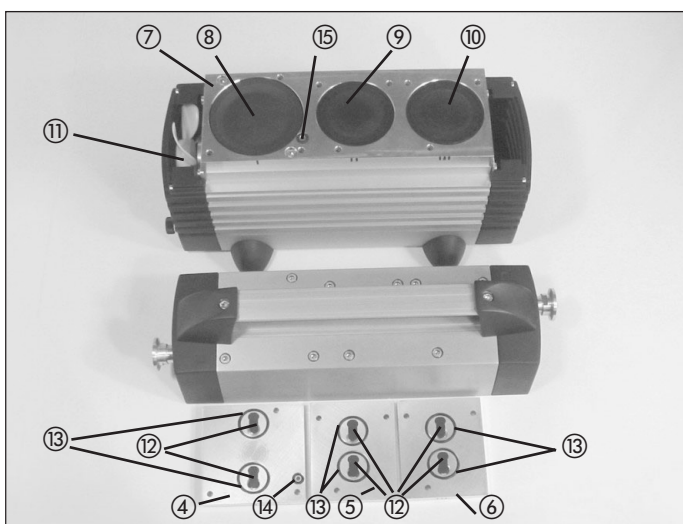

Fig. 6: Servicing level 3
- ➑ Turn the three structured diaphragms ➒, ➓ and ➑ outwards with your hands, counter-clockwise (fig. 6). For this, turn the fan ➑ such that you can easily grip each structured diaphragm with your hands.
- ➒ Remove the valve plates ➑ and O-rings ➑ from the intermediate plates ➎, ➏ and ➑ (fig. 6).
- ➓ Remove O-ring ➑ from the intermediate plate ➎ (fig. 6).
- ➑ Remove O-ring ➑ from adapter ➏ (fig. 6).
- ➌ Screw the new structured diaphragm ➒ into the thread of the vacuum diaphragm ➑ and tighten it by hand (figs. 6 and 7).
- ③ Screw the new structured diaphragm ⑩ onto the connecting rod ⑱ and tighten it by hand.
► Before you finally tighten the structured diaphragm, you are recommended to move the structured diaphragm to the upper dead center by rotating the fan ⑪.
- ① Lay the new O-ring ⑮ on the adapter ⑦ (fig. 6).
- ② Lay the new valve plates ⑫ and the new O-rings ⑬ on the intermediate plates ④, ⑤ and ⑥ (fig. 6).
- ③ Lay the new O-ring ⑭ on the intermediate plate ④ (fig. 6).
- ④ Place the intermediate plates ④, ⑤ and ⑥ on the adapter ⑦ in the position indicated by the drawing lines (M).
- ⑤ Place the head cover ① on the pump housing ③; tighten the screws ② hand tight, evenly and diagonally.
- ① Reconnect system tubing.
- ② Reconnect pump to the electricity supply.